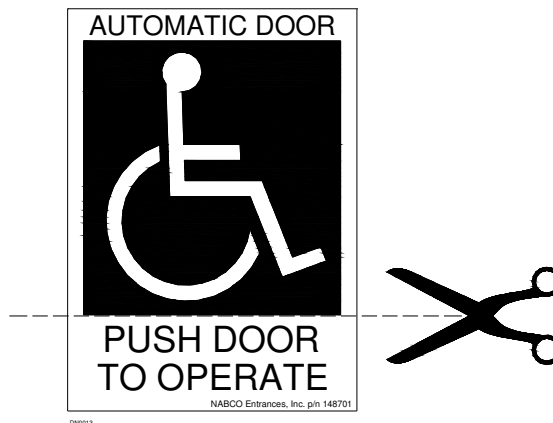

Figure 2 – Door Sticker, Modified.
- Remove the “PUSH DOOR TO OPERATE” portion of the handicap label if the “Push-N-Go” feature is not being used. (See **Figure 2**).